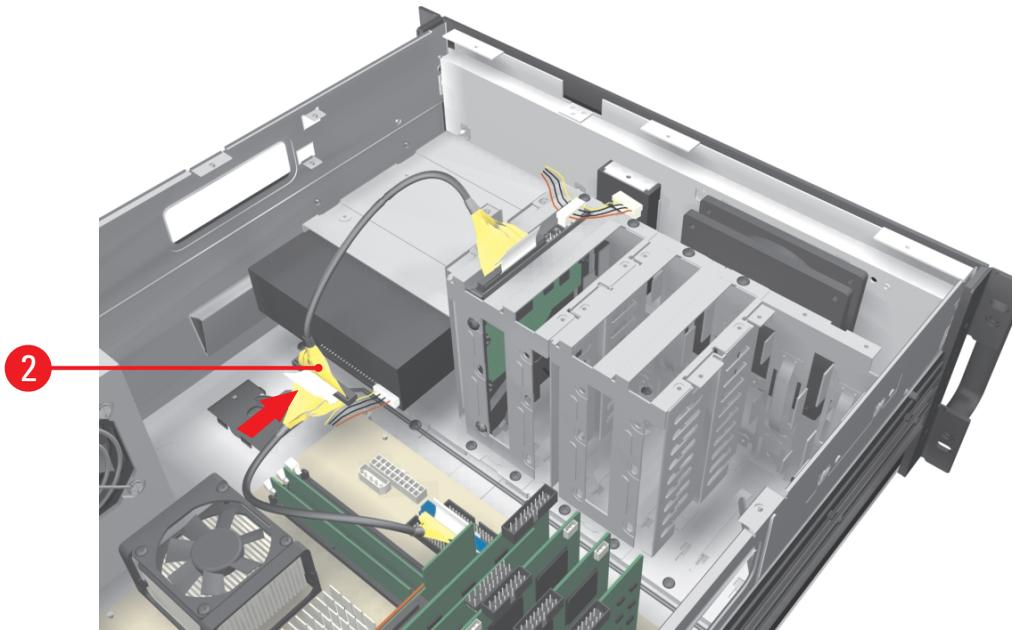

Figure 14. Installing DVD-RW Data Cable
2. Connect the DVD-RW drive to the system motherboard using the existing data cable. Refer to Figure 14.